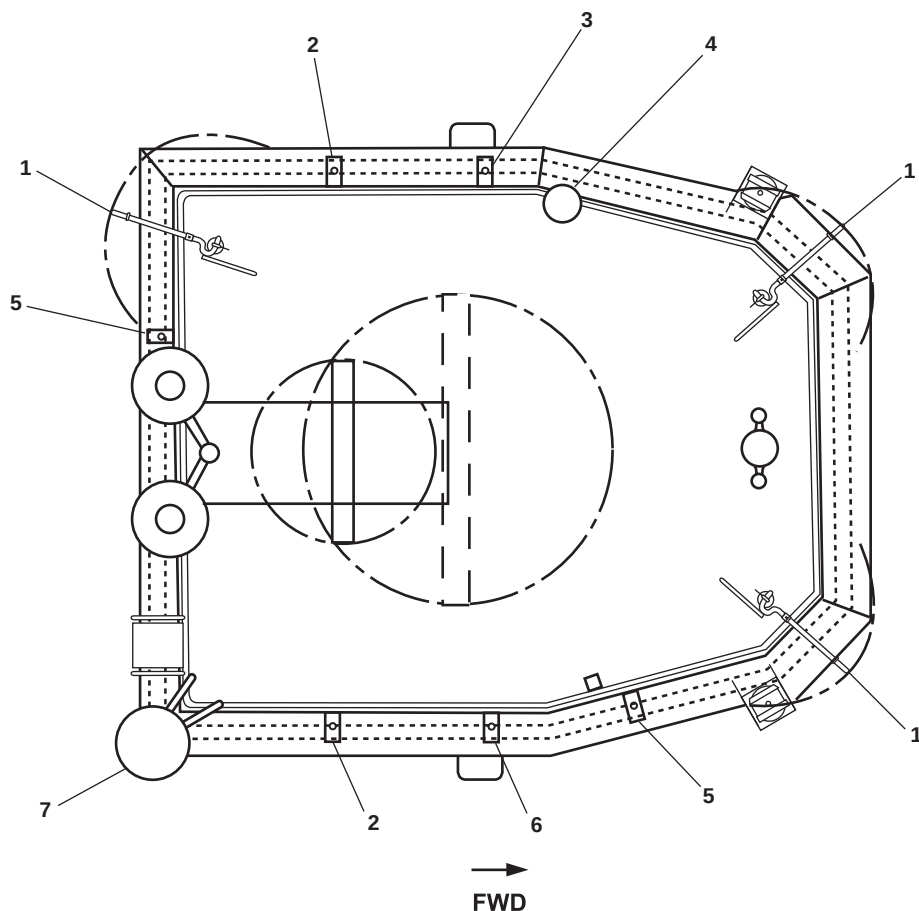

Figure 1. Pilothouse Top
- 33. Compressed air weather tool connection (figure 1, item 33). This connection provides a quick disconnect for compressed air.
- 34. Fire station 10 (figure 1, item 34). Firefighting station 10 uses raw water. This fire station is equipped with 50 feet (15.24 m) of 1-1/2 inch hose and an all-purpose nozzle.
- 35. Potable water bibb (figure 1, item 35). This hose bibb supplies potable water to the 02 deck level.
1. Fire monitors (figure 1, item 1). The fire monitors supply water for fighting fires on the vessel, but are used primarily for other vessels.
2. Multimission tactical, multiband (Shakespeare SF3512/VRC) whip antenna (figure 1, item 2). This antenna is coupled to the vessel's Command, Control, Communications, Computers, Intelligence, Surveillance and Reconnaissance (C4ISR) system. Refer to TM 55-5825-311-10 for details.
3. Watch receiver antenna (Shakespeare 390) (figure 1, item 3). This antenna is coupled to the High Frequency (HF) vessel's C4ISR system. Refer to TM 55-5825-311-10 for details.
4. Television (TV) and radio antenna (Naval Electronics Mk 12) (figure 1, item 4). This antenna is coupled to the vessel's entertainment TV.
5. VHF whip (5225-XT) (figure 1, item 5). This antenna is coupled to the vessel's C4ISR system. Refer to TM 55-5825-311-10 for details.
6. Navtex receiver antenna (Shakespeare 390) (figure 1, item 6). This antenna is coupled to the vessel's C4ISR system. Refer to TM 55-5825-311-10 for details.
7. Radio Frequency (RF) transceiver fleet 77 antenna (TT-3008C) (figure 1, item 7). The antenna is couple to International Maritime Satellite Organization (INMARSAT) System. Refer to TM 55-5825-311-10 for details.